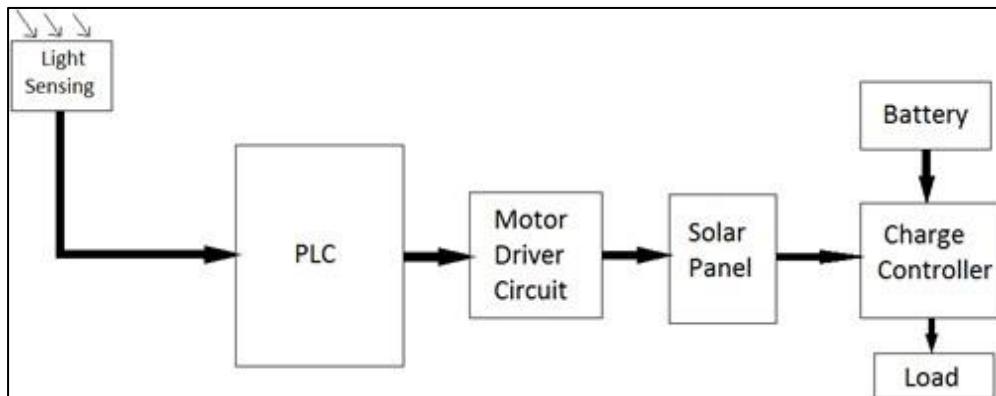

Fig.26 Solar tracking system
1. Design a solar tracking system with related components for fig.26 using ladder diagram in terms of concepts.